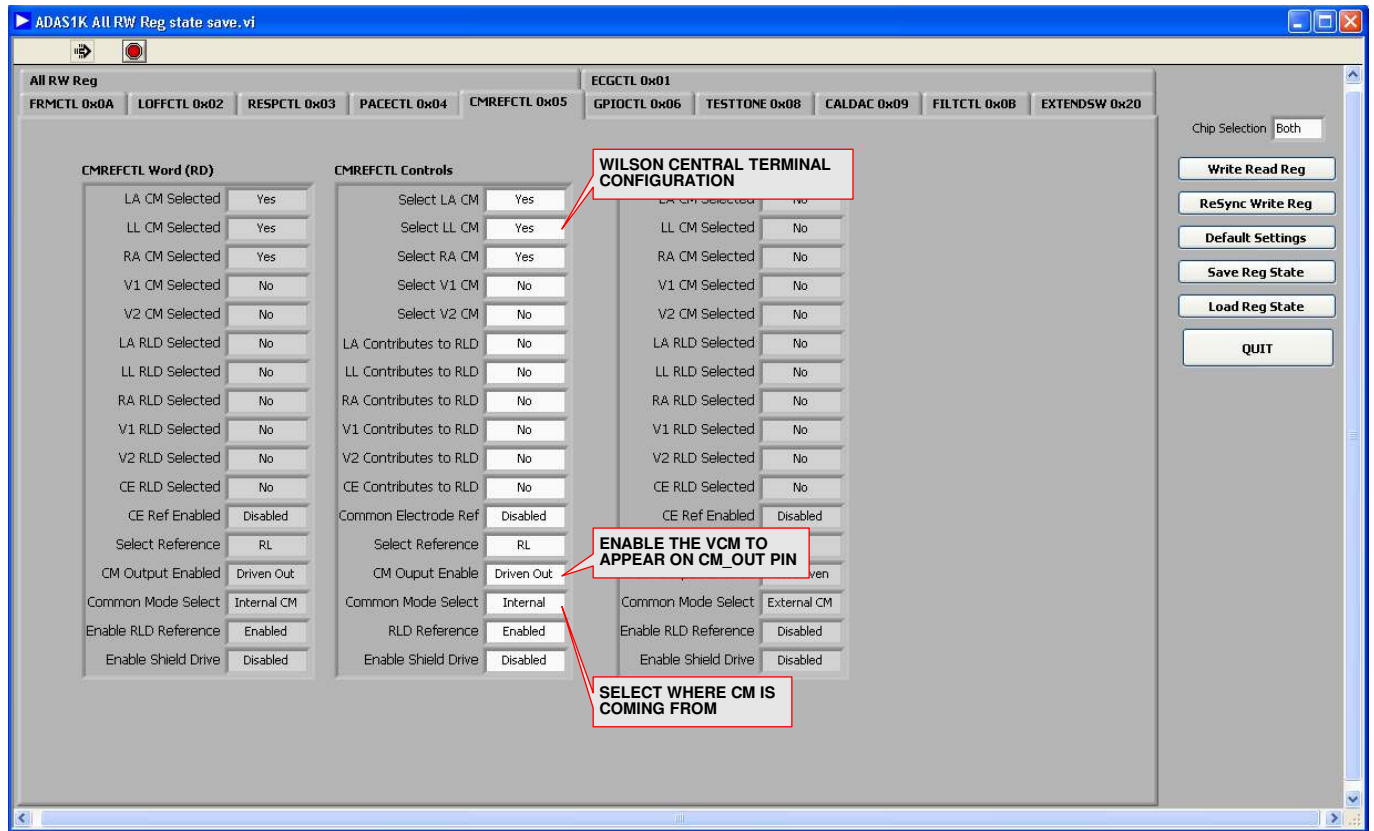

Figure 30. CMREFCTL 0x05 Table
- The Wilson central terminal of $(RA + LA + LL)/3$ can be configured here also as shown in Figure 30.